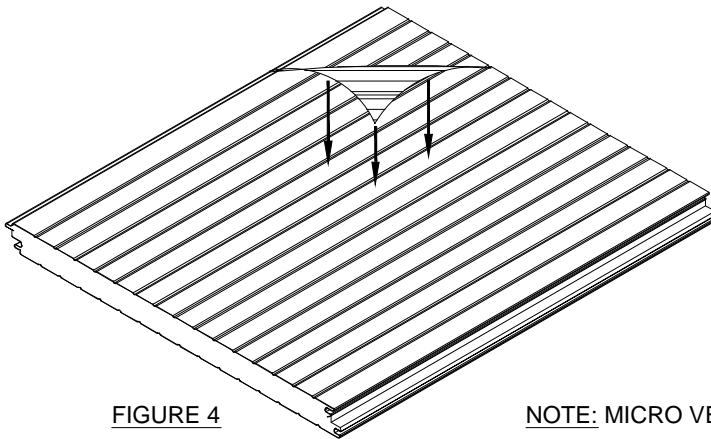

FIGURE 4
- 9.4 REMOVE THE PROTECTIVE PLASTIC FILM FROM THE PANEL CORNER AND PULL OFF AT A 45° ANGLE. THIS IS THE BEST WAY TO REMOVE THE FILM. (SEE FIG. 4)